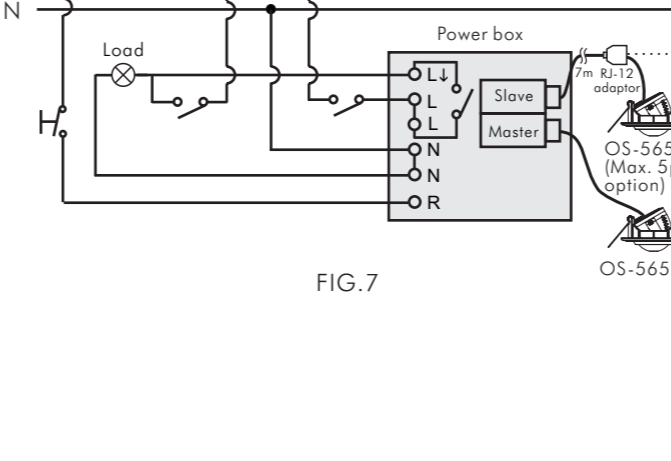

FIG.7
3.3.2.1 OS-565PAi for standard application (See FIG.7).